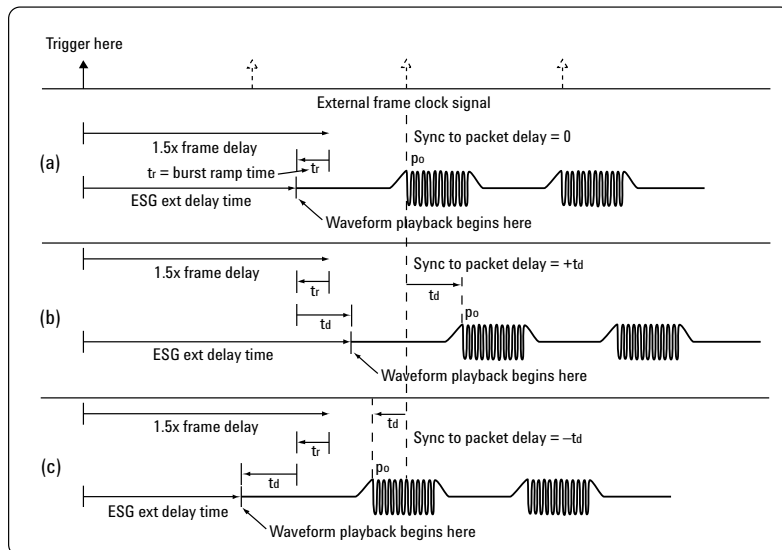

Figure 30: DH1 waveforms triggered from an external frame clock signal timing diagram.
Figure 30 shows the timing relationship of a DH1 packet sequence relative to an external frame clock signal.
Three different waveforms are shown in Figure 30, and each waveform has the same value for the burst ramp. The burst ramp,  $t_r$ , includes the power ramp and power settling times. The sync to packet delay,  $t_d$ , is different for each of the waveforms:
- Figure 30 (a)  $t_d = 0$
- Figure 30 (b)  $t_d = + \text{value}$
- Figure 30 (c)  $t_d = - \text{value}$